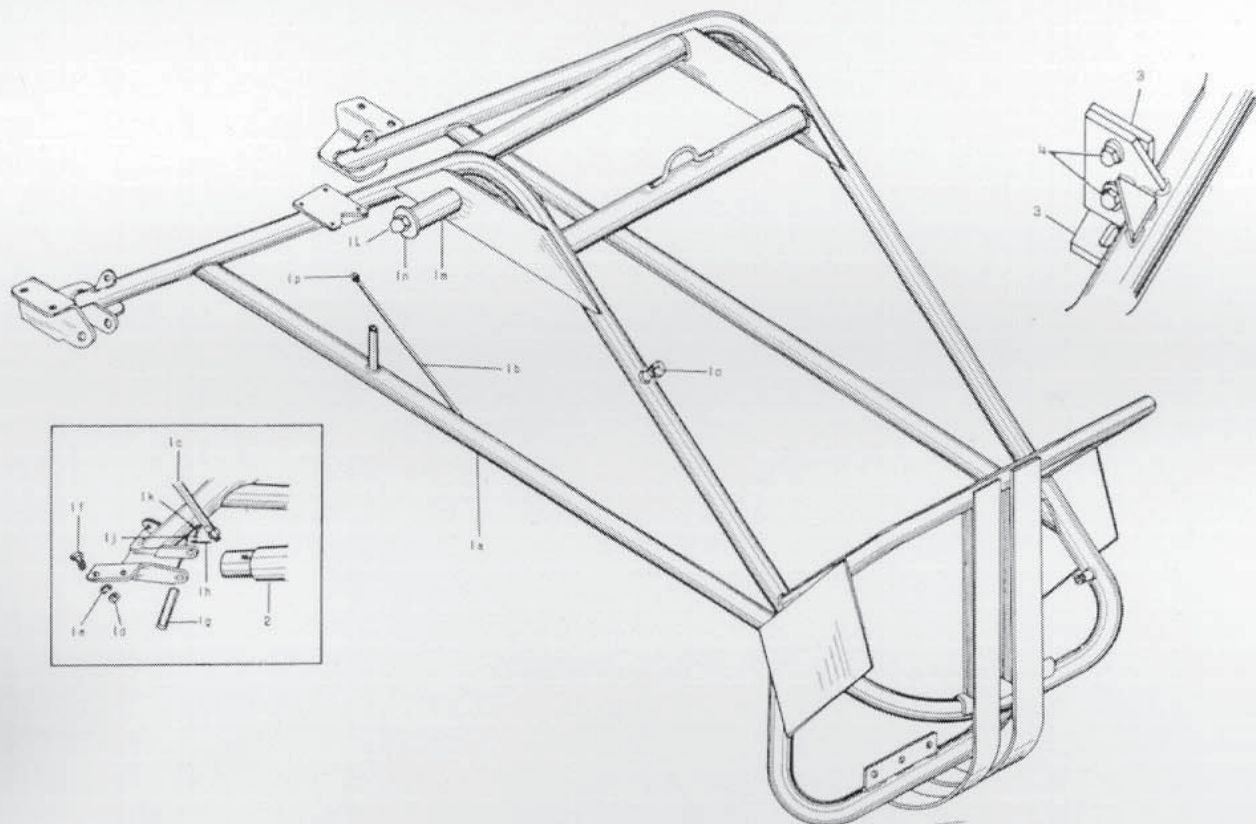

Figure 9 — Main Frame Assembly WM3, WM2 and WM1
**Main Frame Assembly WM3, WM2 and WM1 (Fig. 9)**